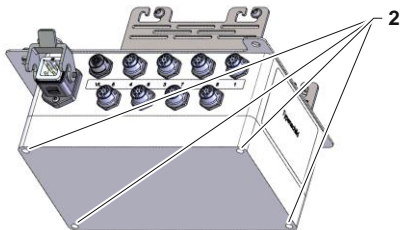

Fig. 2: Remove housing cover
- Detach screws (Label 2 → Fig. 2) and remove housing cover.
- Attach housing cover and mount screws (Label 2 → Fig. 2).